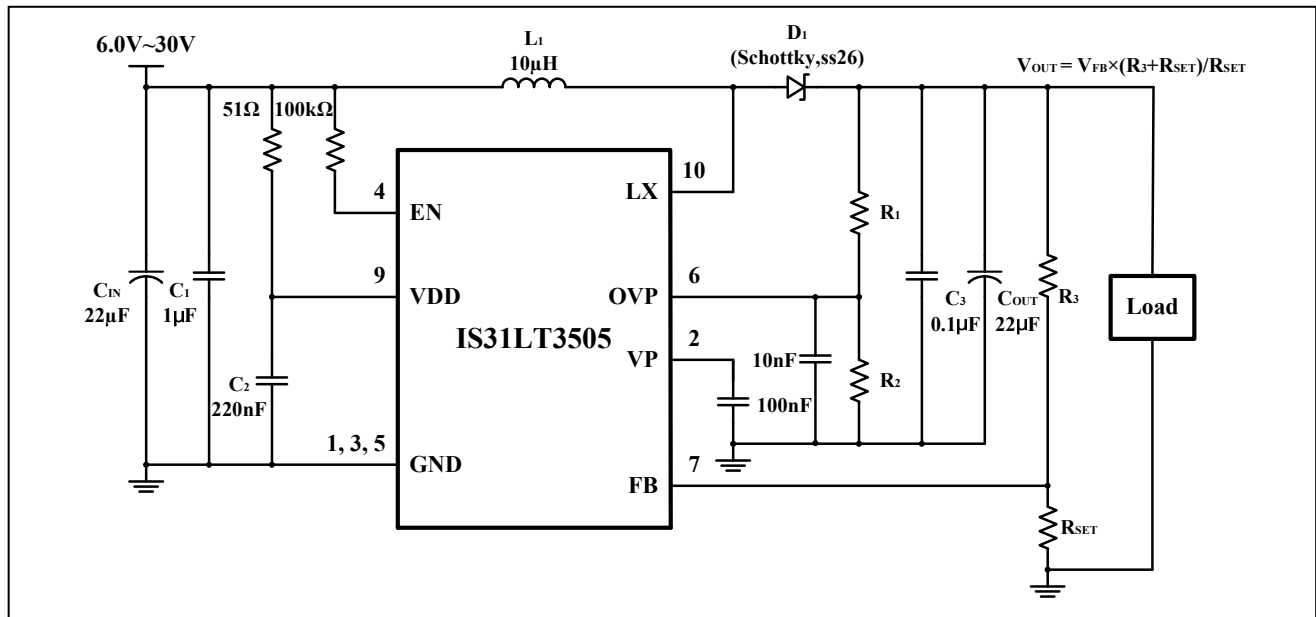

Figure 16 Application Circuit (Constant Voltage to Drive Other Devices)
When IS31LT3505 drives other devices (Figure 16) with the constant voltage, the output voltage is set through the Formula (4). The internal feedback voltage V_{FB} is 0.3V (Typ.).